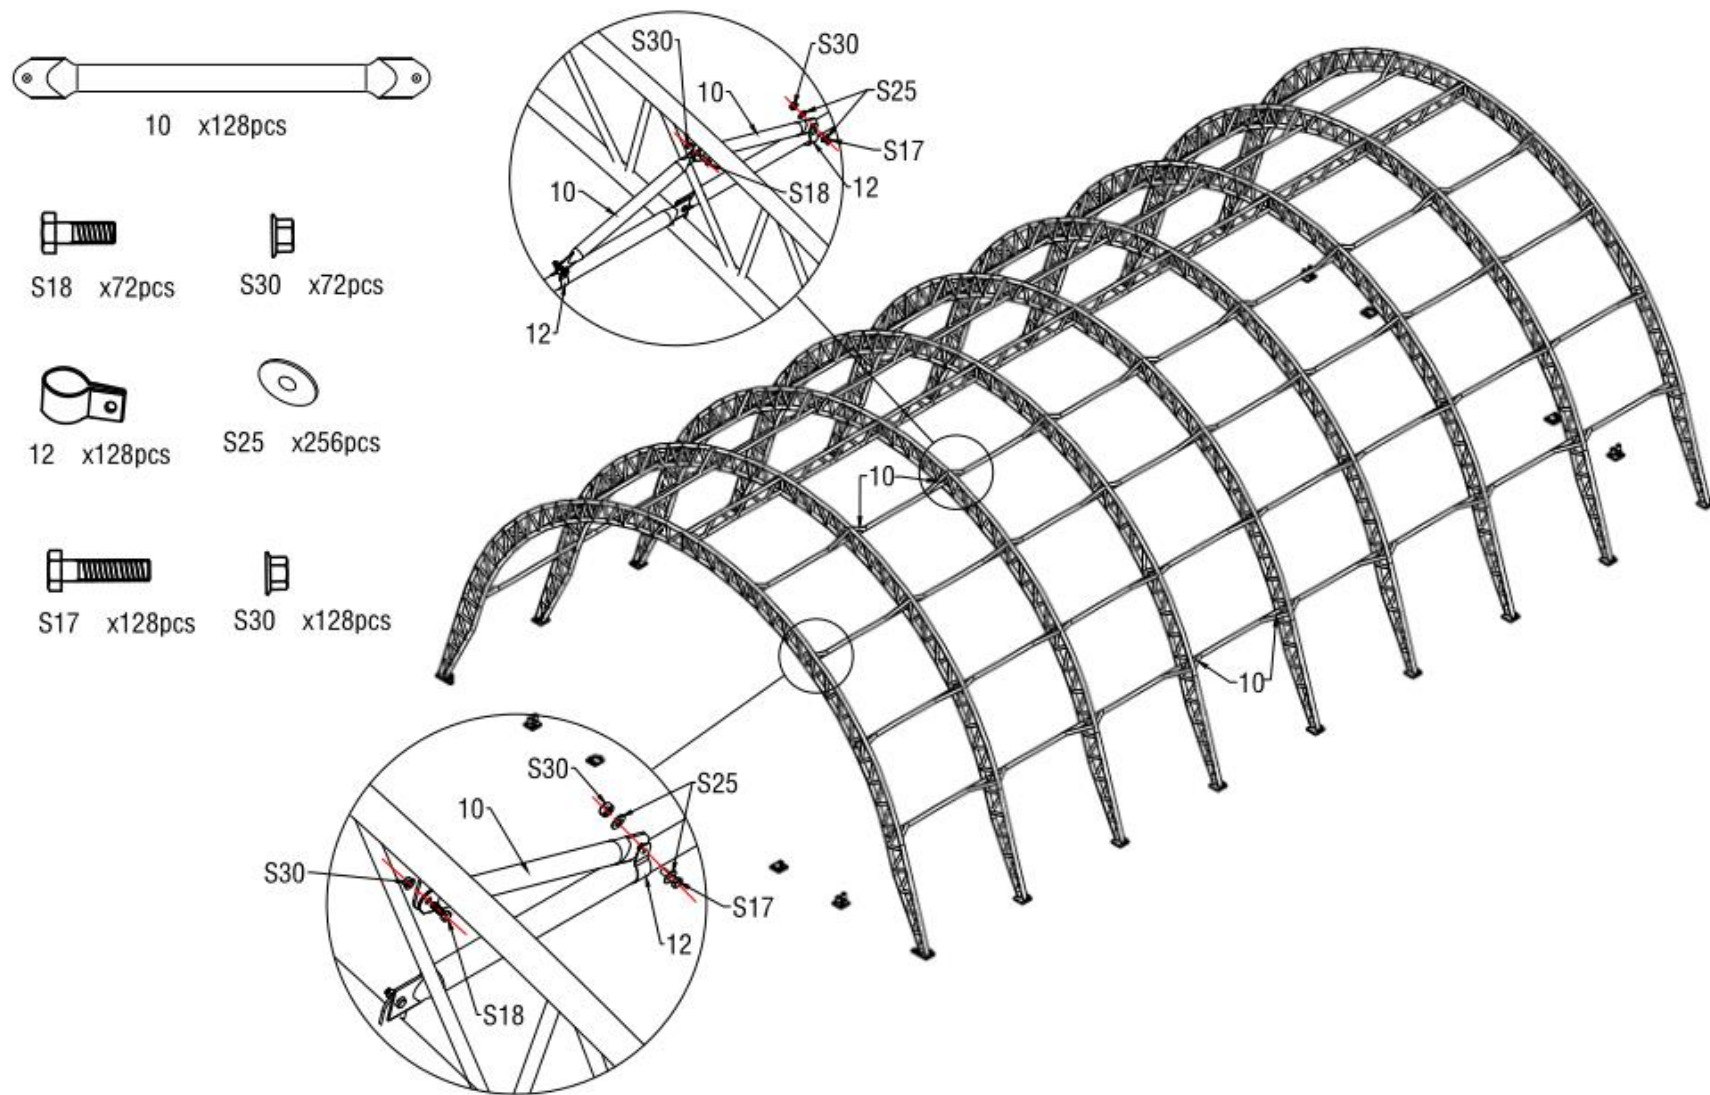

Figure 9
5. Fix clips(No.12) on purlins(No.9) and install the Diagonal Support Tube For purlin (No.10) on clips as figure 9 shows. Please connect the Diagonal Support Tube For purlin (No.10) between arch frame and purlin (No.9) by using Screw M10x30(No.S18) and Screw M10x50(No.S17) with plain washer M10(No.S25).